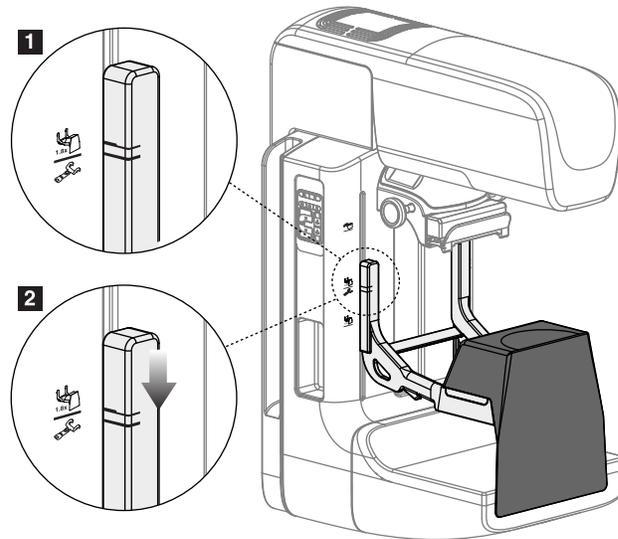

Figure 5-9: Installation of the Magnification Stand
4. Align the thick black lines on the Magnification Stand with the thick black lines on the C-arm. When these lines meet, the hooks of the Magnification Stand align to the mounting slots on the C-arm. See Figure 5-9, number 1.
5. Put the hooks of the Magnification Stand into the C-arm slots. Slide the Magnification Stand down, until the thin black lines on the Magnification Stand and the black line of the C-arm meet. See Figure 5-9, number 2.